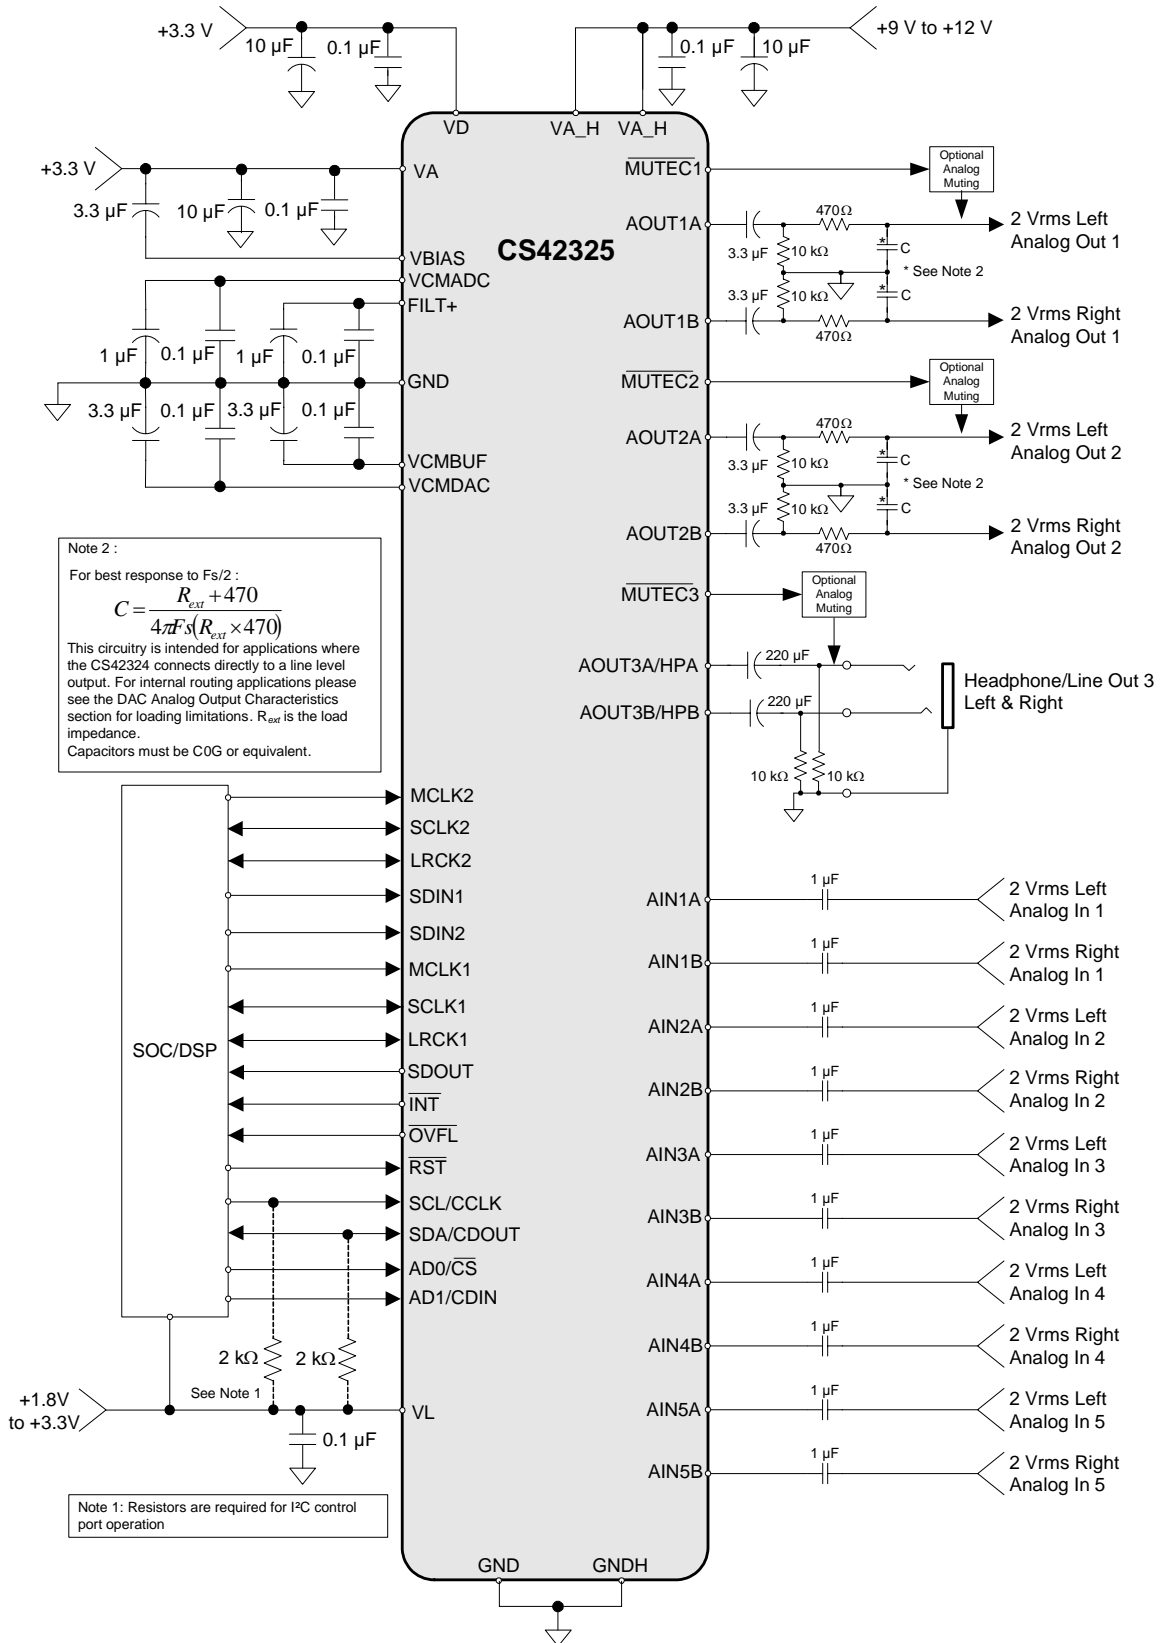

Figure 7. Typical Connection Diagram - Software Mode
15. Valid with the recommended capacitor values on FILT+, VCMDAC, VCMADC and VCMBUF as shown in Figure 7 on page 26 and Figure 8 on page 27.